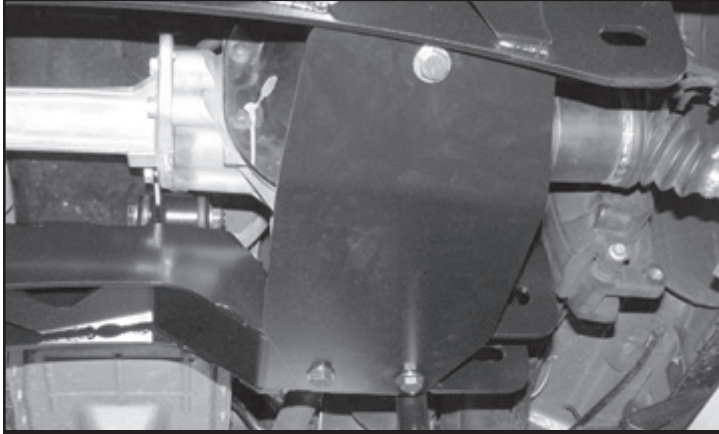

FIGURE 43 - STEP 41
41. Locate the Fabtech skid plate (FT30377BK) the skid plate will span the distance between the front and rear crossmembers directly under the front differential. Attach the end of the skid plate with the single hole to the tab on the back side of the front crossmember using one ½" - 13 x 1-1/4 bolt, washers and a C-lock nut. Lift up the back side of the skid plate and install it to the rear crossmember using two ½" - 13 x 1-1/4 bolts, washers and a C-lock nut. Torque all hardware to 127 ft-lbs. Torque crossmember bolts to 240 ft-lbs. **SEE FIGURE 43**